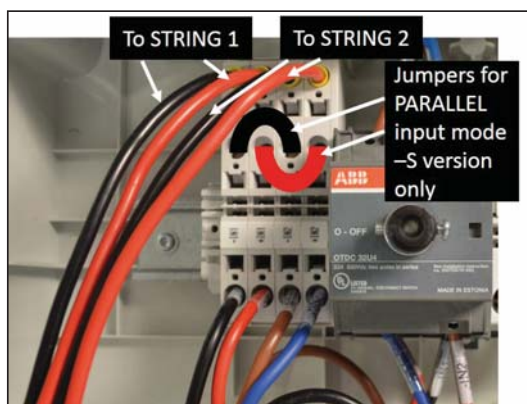

Figure 14
- Connect array to String 1 and String 2 input positions shown in Figure 14, running separate wires for POS and NEG for each array.
- Connect the input in the switch box as shown in Figure 14.